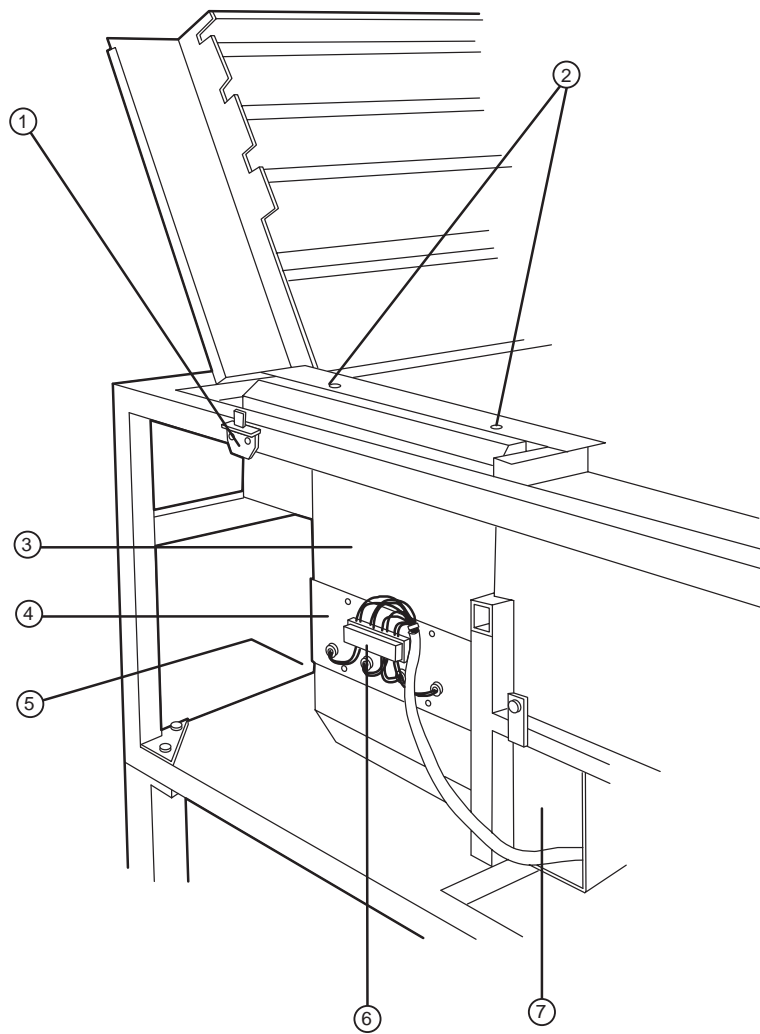
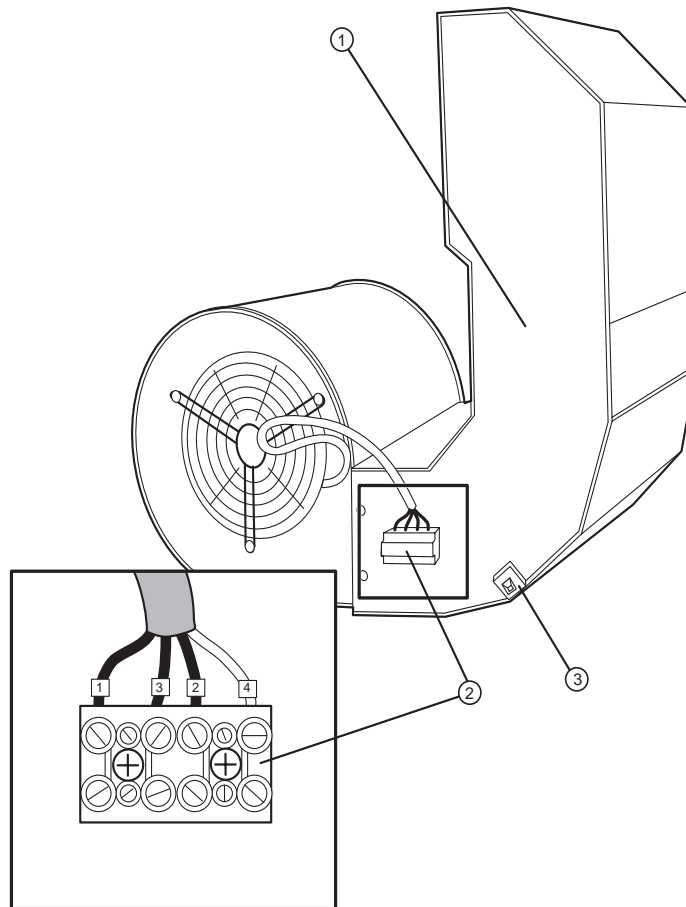

Figure 3-19 Dryer blower.
Figure 3-20 Dryer blower assembly.
5. Remove the two (2) screws at the top of the dryer/blower unit. Refer to Figure 3-19.
6. Cut the tie wraps around the sensor on the frame. Cut the tie wrap holding the wires to the left side of the dryer/blower housing. Refer to Figure 3-19 and Figure 3-20.
7. Using a phillips screwdriver, remove the two (2) screws securing the sensor to the frame. Refer to Figure 3-19.
- ①—Sensor. ②—Top screws. ③—Dryer/blower unit.
- ④—Dryer heating elements. ⑤—Left side screws/electrical connections.
- ⑥—Terminal block. ⑦—Right side screws.
- d. #4 (green/yellow ground wire)Refer to Figure 3-20.
Remove the two (2) screws in the terminal block. Refer to Figure 3-20.
9. Remove the two (2) blower mount screws and pull the housing out.